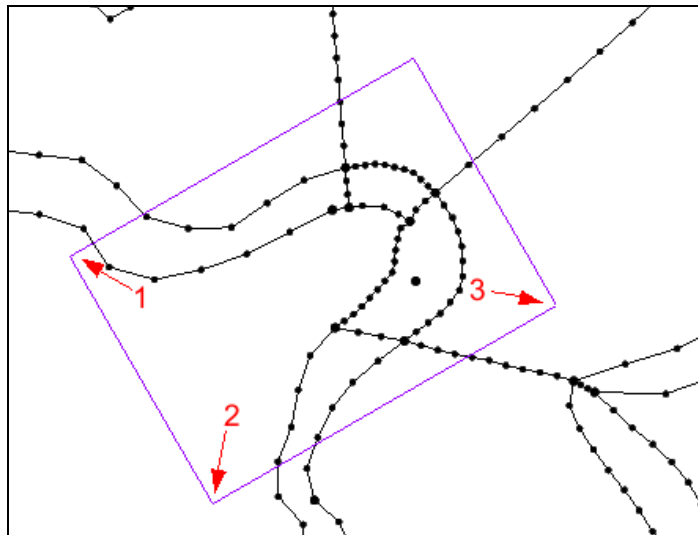

Figure 17 Grid frame locations
5. Select the **Create 2D Grid Frame**  tool and click in location 1 as shown in Figure 17.
The grid frame should now appear similar to Figure 17. The grid frame has now been resized and is nearly ready for conversion.